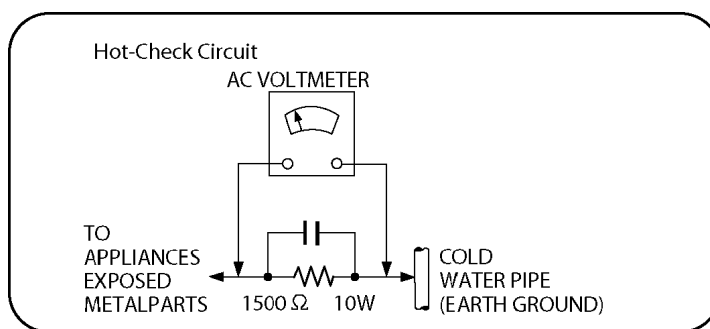

Figure 1
2. Connect a $1.5k\Omega$, 10 watts resistor, in parallel with a $0.15\mu F$ capacitors, between each exposed metallic part on the set and a good earth ground such as a water pipe, as shown in **Figure 1**.